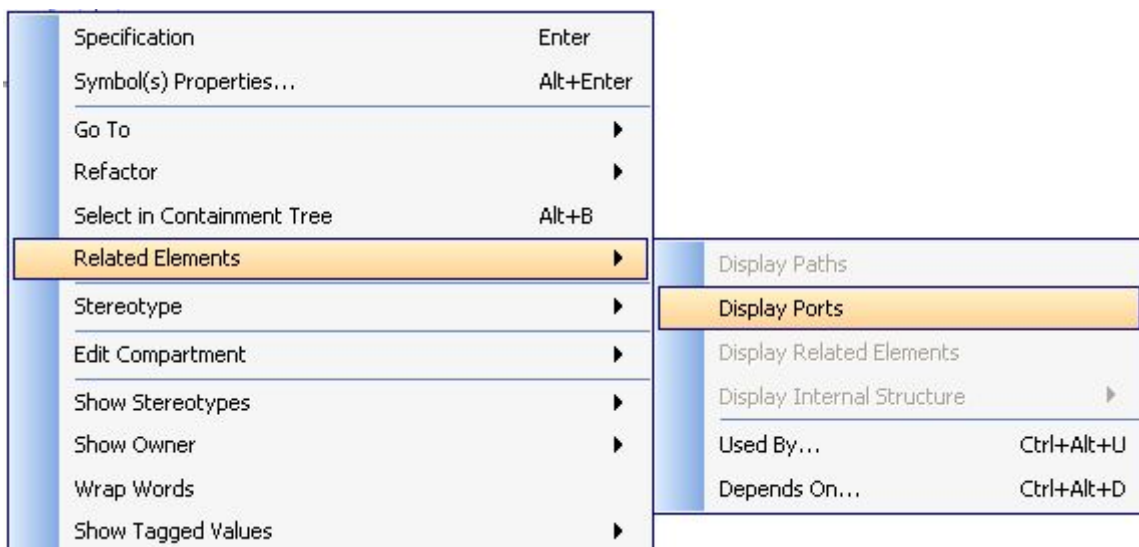

Figure 61 -- Property Shortcut Menu to Display Ports
1. You can either (i) select **Related Elements**. If the type (classifier) of the part owns at least one port/flow port, the **Display Ports** option will be enabled for you to select. Select this option (Figure 61).